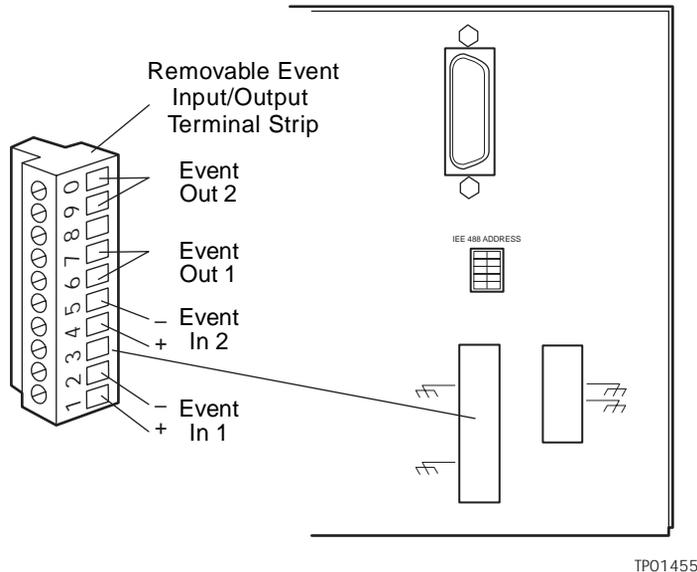

Figure 1-6 Event Input/Output Terminal Strip
1. Pull off the Event Input/Output terminal strip from the rear panel (Figure 1-6). This simplifies the following steps.
2. Insert the bare wires at one end of the event signal cable into the positive (+) and negative (-) slots of the appropriate event input or output terminal (see Figure 1-6). Tighten the two screws to secure the + and - wires.